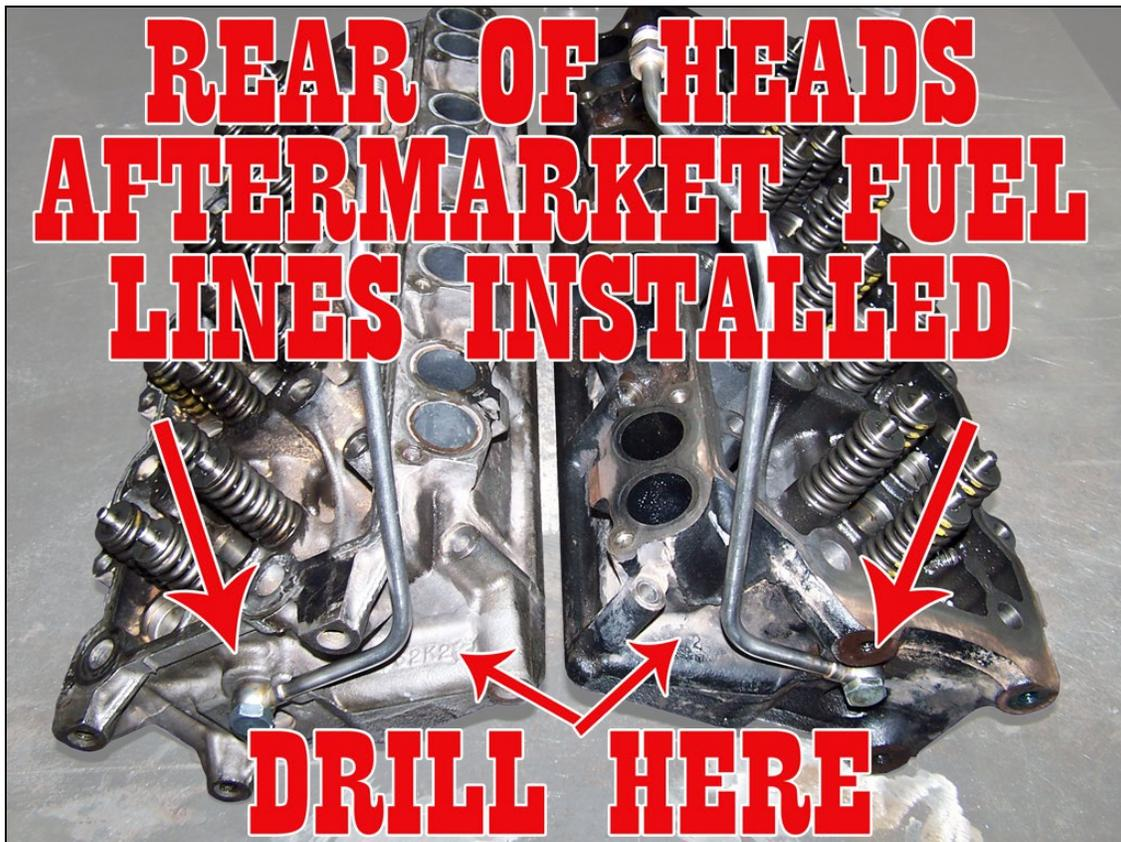

Figure 1a – Heads Positioned with Aftermarket Fuel Lines and “Drill Here” Arrows
3. Before you go any farther, if you are using an aftermarket fuel system (like our Driven Diesel Regulated Return Kit), it's HIGHLY RECOMMENDED that you install the rear fuel lines in the rear fuel ports of the heads and orient them as they would be when in the truck. You are going to be marking and drilling the cylinder heads in the upcoming steps and you need to make sure that the fittings and hoses you are about to install don't interfere with the fuel lines from your fuel system kit. See FIGURES 1a, 1b and 1c.
11. It is helpful to prop the head up on a wood block (or similar) in the middle like we have them in FIGURE 1a for this next step.